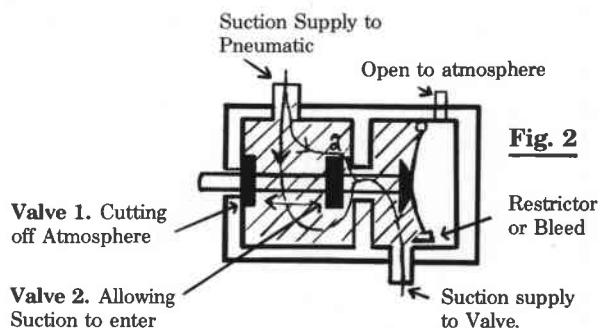

Fig. 2
1. The capability of supplying suction and at the same time cutting off atmosphere to the pneumatic, when it is moved to an **operational** position. (Refer Figure 2).
atmosphere port. (Refer Figure 3). When the valve is moved to its operational position it closes off the atmosphere port on one end and opens the port to suction chamber on the other. (Refer Figure 2). Before reading further be sure to understand what has been explained so far, this will determine your understanding of how a valve functions.